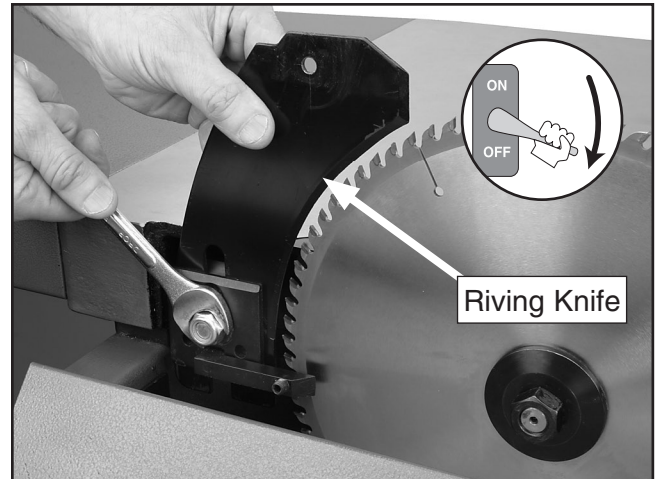

Figure 33. Installing the riving knife.
2. Loosen the riving knife center bolt, slide the riving knife between the plates as shown in **Figure 33**, and slightly tighten.